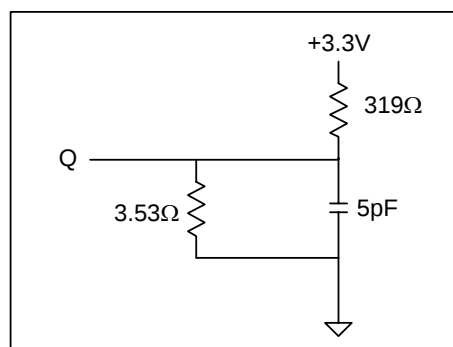

Figure 2
- The load used for VOH, VOL testing is shown in Figure 2. AC load current is higher than the shown DC values. AC I/O curves are available upon request.
2. Output loading is specified with $C_1=5\text{pF}$ as in Figure 2.